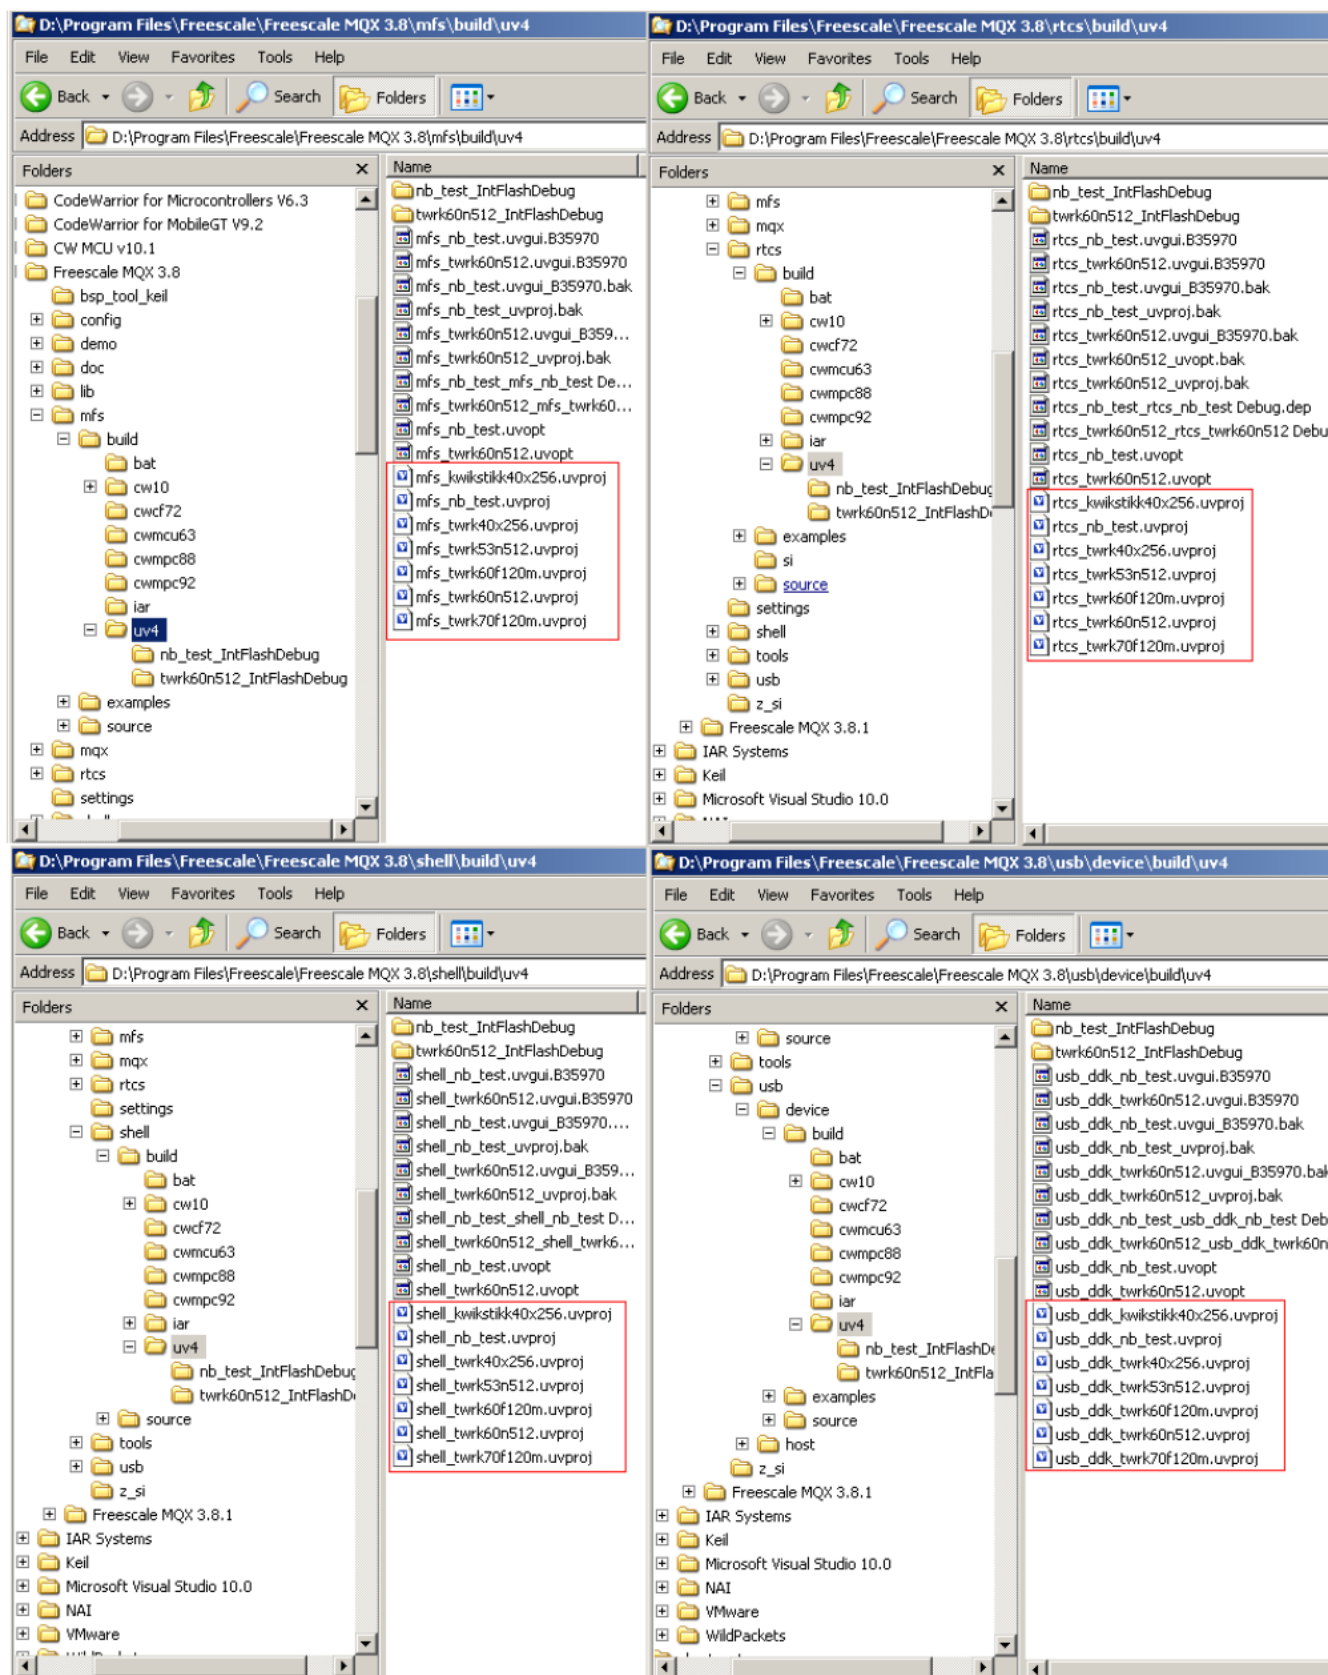

Figure 6. mfs, rtcs, shell and usb folders
- **mfs, rtcs, shell and usb:** These folders have the project file for corresponding functions. See Figure 6. The user needs to rebuild these projects for the application projects.